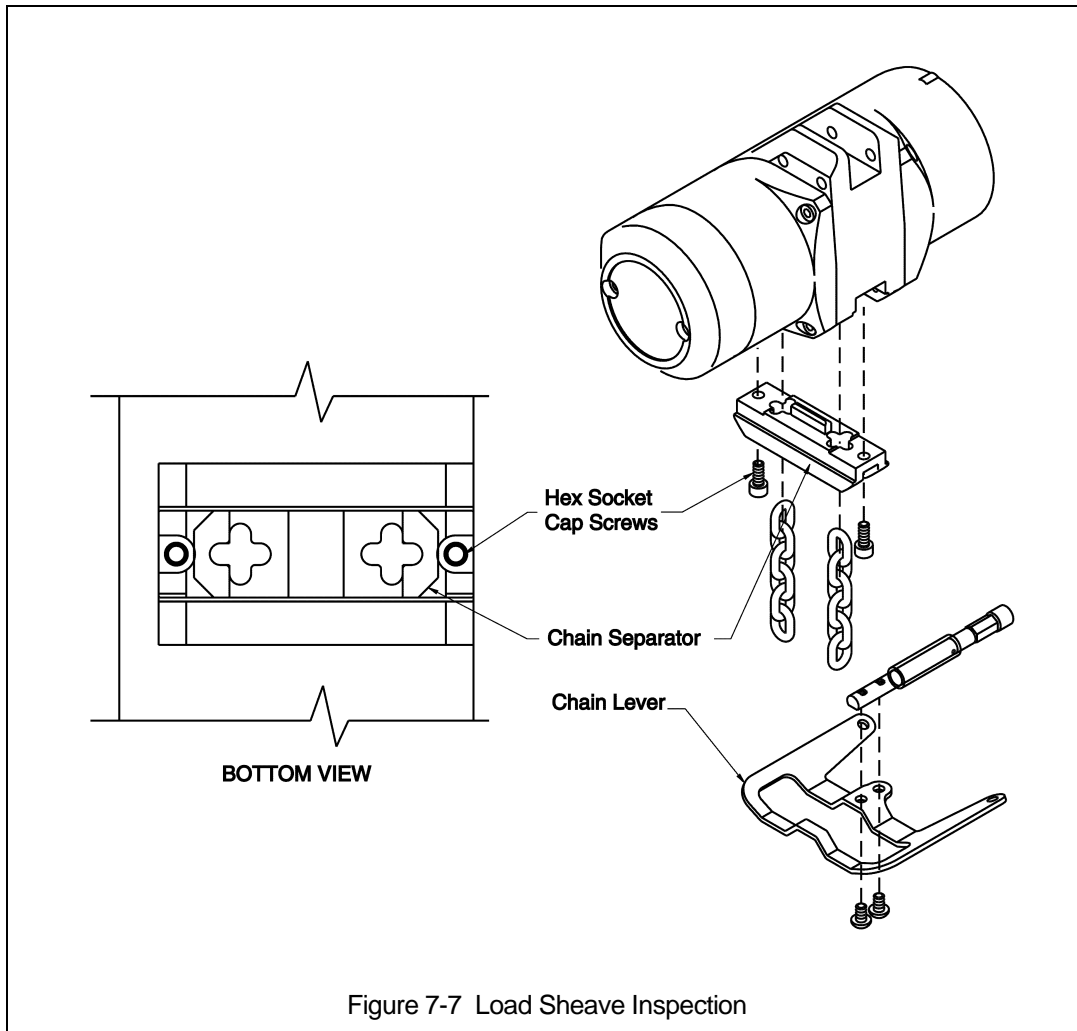

Figure 7-7 Load Sheave Inspection
7.4.1 Perform this inspection by removing the chain separator and viewing the load sheave while operating the hoist slowly, with no load, and in accordance with Section 4 "Operation". Refer to Figure 7-7 and remove the chain separator as follows: